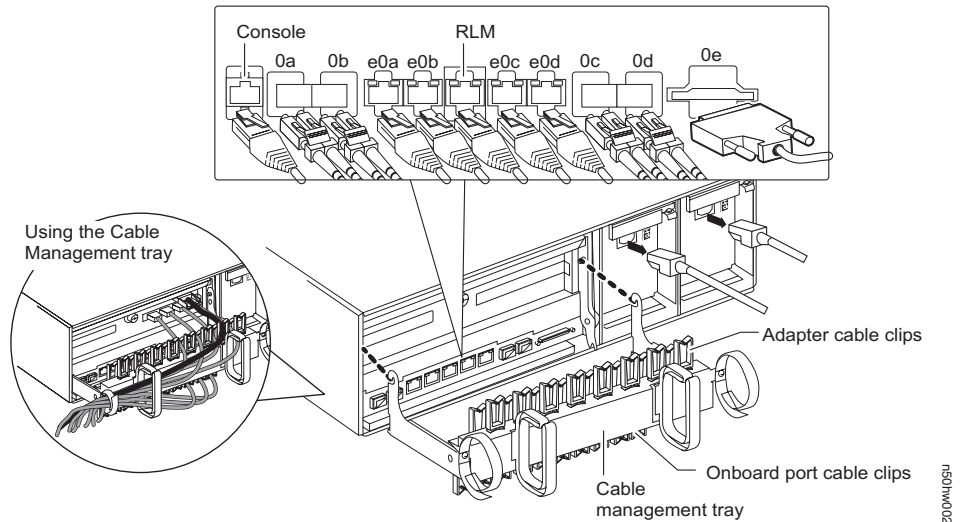

Figure 16. Cable management tray
5. Remove the cable management tray by completing the following substeps, using Figure 16 for reference: